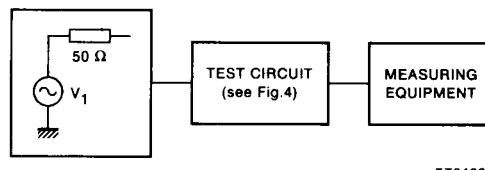

Fig.5 Test figure A.
1. A simple digital method of performing an approximate bit error rate (BER) measurement with a counter is shown in Fig.5. At high signal levels ( $10 \mu\text{V}$ ) the counter should read the exact frequency of the data input to the signal generator (256 Hz). As the signal level is reduced, errors occur at the receiver output and effectively changes the output frequency read by the counter (error duration is nearly always less than one bit length). The input signal level ( $V_{ref}$ ) is reduced until the bit error rate is  $\leq 1 \times 10^{-2}$  (5 bit errors for 512 bit/s system). The frequency from the data output signal will change from 256 Hz (512 bit/s system) to 261 Hz. This RF-level is the reference for the following tests ( $V_{ref}$ ).
6. AFC lock-in-range (see Fig.5);